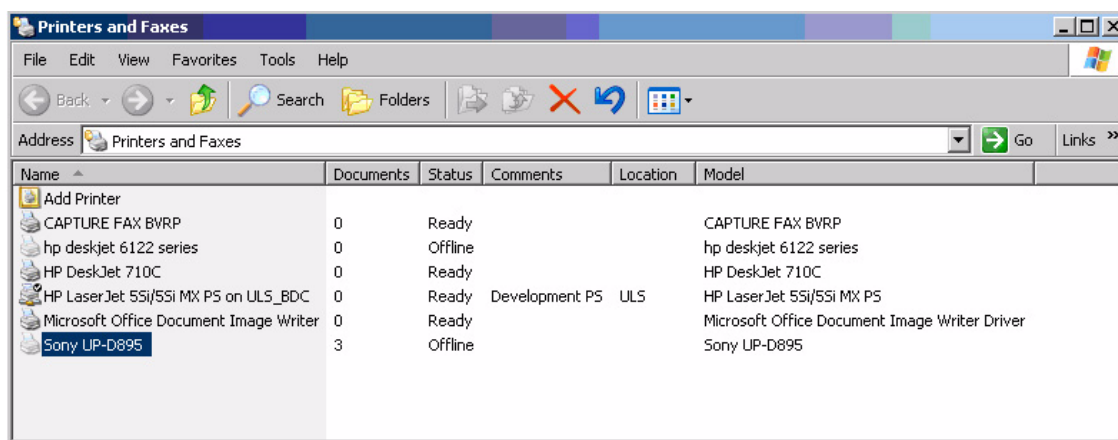

Figure 3-87 Printers and Faxes Window
- 2) Right-click on the destination virtual printer (see Figure 3-87) and select **Open**.